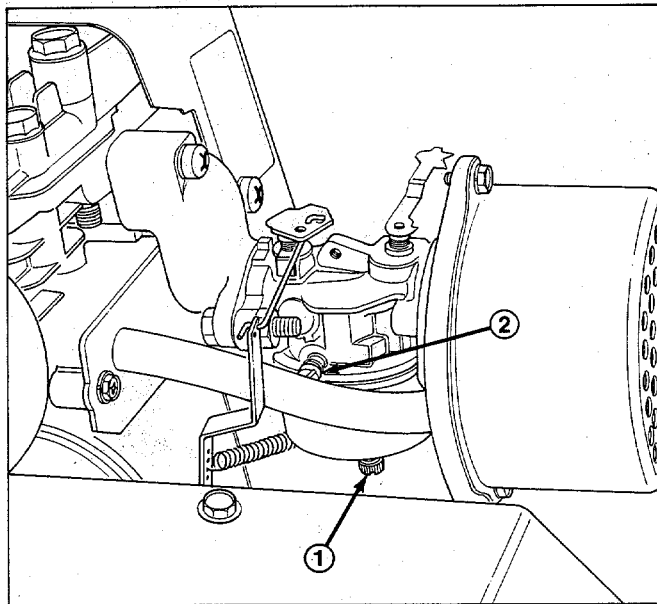

Figure 40
1. Turn high speed fuel mixture adjusting screw clockwise until finger tight (Fig. 40).
1. With engine stopped, turn low speed fuel mixture adjusting screw clockwise until finger tight (Fig. 40).